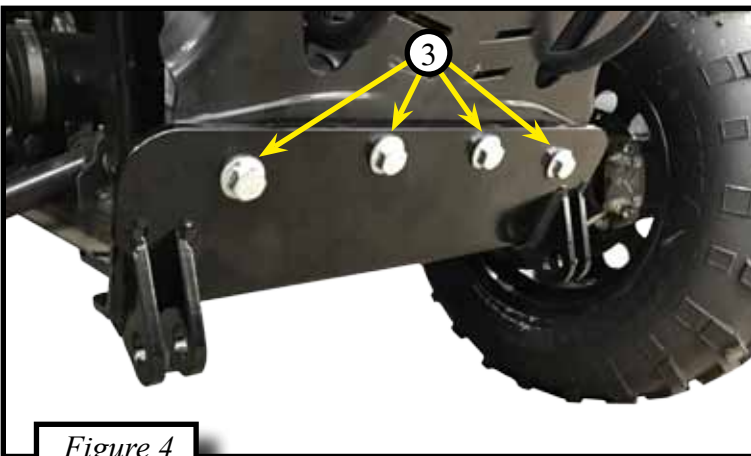

Figure 4
4. Place the mount assembly back up to the bumper and re-attach it using the four included flange bolts (3). Shown in Figure 4.